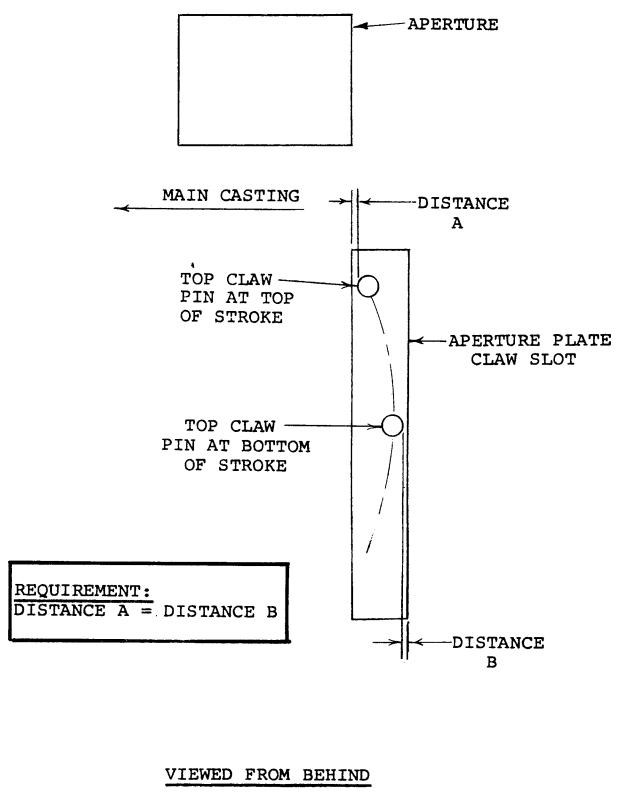
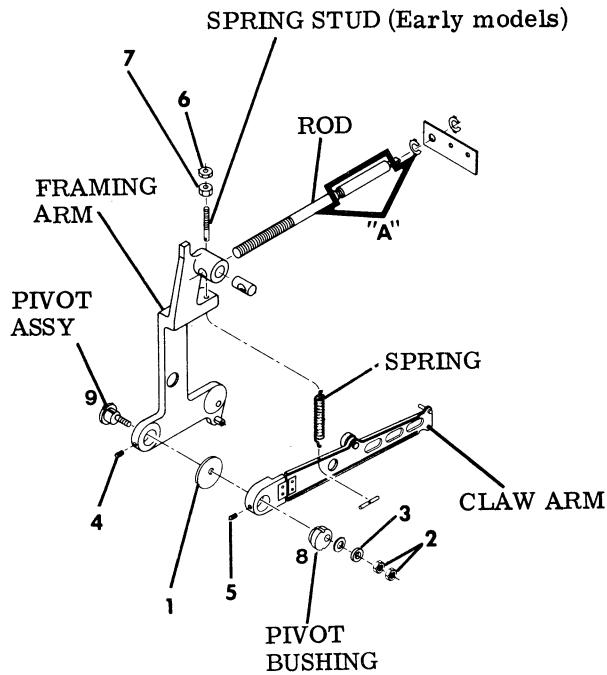
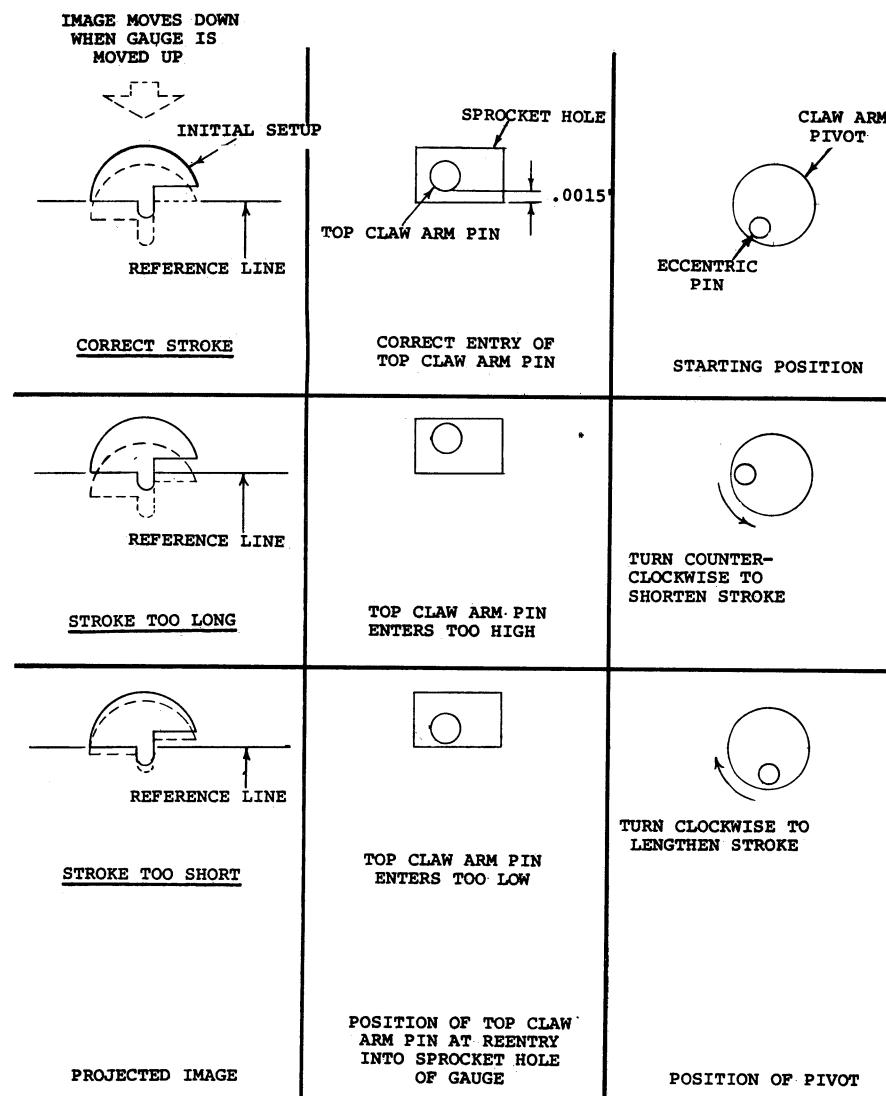

Figure 4-7. SIDE CLEARANCE
Figure 4-8. CLAW ARM
Figure 4-11. CLAW PULL DOWN STROKE ADJUSTMENT
Before attempting any adjustments, manually rotate the inching knob to make sure the Claw Arm Pins do not strike the sides of the Aperture Plate Claw Slot. At the top of the Claw Arm Stroke, the Top Claw Arm Pin will be nearer the inside edge of the Aperture Plate Slot (Figure 4-7). At the bottom of its travel, this Pin will be nearer to the outside edge of the Aperture Plate Slot. Loosen Screw (5) and adjust Bushing (8) (Figure 4-8) so these two distances are equal. (Removing Lamphouse Cover and viewing Pins from behind the Aperture Plate aids in this adjustment.)
- m. Tighten Screws (1) and (2) to 140-inch/ounces of torque (very tight) and replace Screw (3) and tighten securely.
- 2. Claw Pull Down Stroke and Side Clearance (Figures 4-7 / 4-11) These Two Adjustments are interdependent and must be adjusted at the same time. If either one is adjusted, the other must be checked and adjusted as necessary until requirements for both can be met.
A good starting position for the Pivot (9) (Figure 4-8) places its Eccentric Pin at about 7 O'Clock when viewed from front of Projector (See Figure 4-11). The notch in Bushing (8) (Figure 4-8) should be slightly below the notch in Pivot (9) so an imaginary line drawn across the top of Bushing notch lines up with bottom of Pivot notch.
holes of film. When Framing is correct, the Top Claw Arm Pin should be the same distance from the inside edge of the sprocket hole at the top of its stroke as it is from the outside edge of the sprocket hole at the bottom of its stroke (Figure 4-7). Loosen Screw (5) and adjust Bushing (8) (Figure 4-8) so these two distances are equal. Remove film from Projector after proper Framing and Side Clearance are established.
h. Adjust by placing Shuttle Cam Adjusting Tool (ST-5884) on Claw Arm Pivot (9) (Figure 4-8), loosening Screws (4) and (5) and rotating Pivot (9) and Bushing (8) the same amount in the same direction simultaneously. Turn counterclockwise (as viewed from front of projector) to shorten stroke and clockwise to lengthen stroke. (Figure 4-11)
The Top Claw Arm Pin should be the same distance from the inside edge of the Gauge sprocket hole at the top of its stroke as it is from the outside edge of the Gauge sprocket hole at the bottom of its stroke (Figure 4-7).
Loosen Screw (5) and adjust Bushing (8) (Figure 4-8) so these two distances are equal.
(Figures 4-7 thru 4-11)
A good starting position for the Pivot (9) (Figure 8) places its Eccentric Pin at about 7 O'Clock when viewed from front of Projector (See Figure 4-11). The notch
Before attempting any adjustments, manually rotate the inching knob to make sure the Claw Arm Pins do not strike the sides of the Aperture Plate Claw Slot. At the top of the Claw Arm Stroke the Top Claw Arm Pin will be nearer the inside edge of the Aperture Plate Slot (Figure 4-7). At the bottom of its travel, this Pin will be nearer to the outside edge of the Aperture Plate Slot. Loosen Screw (5) and adjust Bushing (8) (Figure 4-8) so these two Distances are equal. (Removing Lamphouse Cover and viewing Pins from behind the Aperture Plate aids in this adjustment.)
- Thread an old film in the Projector (do not use a good film for this adjustment) and adjust Framing Knob to eliminate any frame lines at top or bottom of projected image with the Projector running in Forward. If excessive noise results when framing knob is moved, stop machine and check location of Claw Arm Pins in sprocket holes of film. When framing is correct, the Top Claw Arm Pin should be the same distance from the inside edge of the sprocket hole at the top of its stroke as it is from the outside edge of the sprocket hole at the bottom of its stroke (Figure 4-7). Loosen Screw (5) and adjust Bushing (8) (Figure 4-8) so these two distances are equal. Remove film from Projector after proper Framing and Side Clearance are established.
- k. Adjust by placing Shuttle Cam Adjusting Tool (ST-5884) on Claw Arm Pivot (9) (Figure 4-8), loosen - ing Screws (4) and (5) and rotating Pivot (9) and Bushing (8) the same amount in the same direction simultaneously. Turn counter-clockwise (as viewed from front of projector) to shorten stroke
and clockwise to lengthen stroke. (Figure 4-11).
The Top Claw Arm Pin should be the same distance from the inside edge of the Gauge sprocket hole at the top of its stroke as it is from the outside edge of the Gauge sprocket hole at the bottom of its stroke (Figure 4-7). Loosen Screw (5) and adjust Bushing (8) (Figure 4-8) So these two distances are equal.